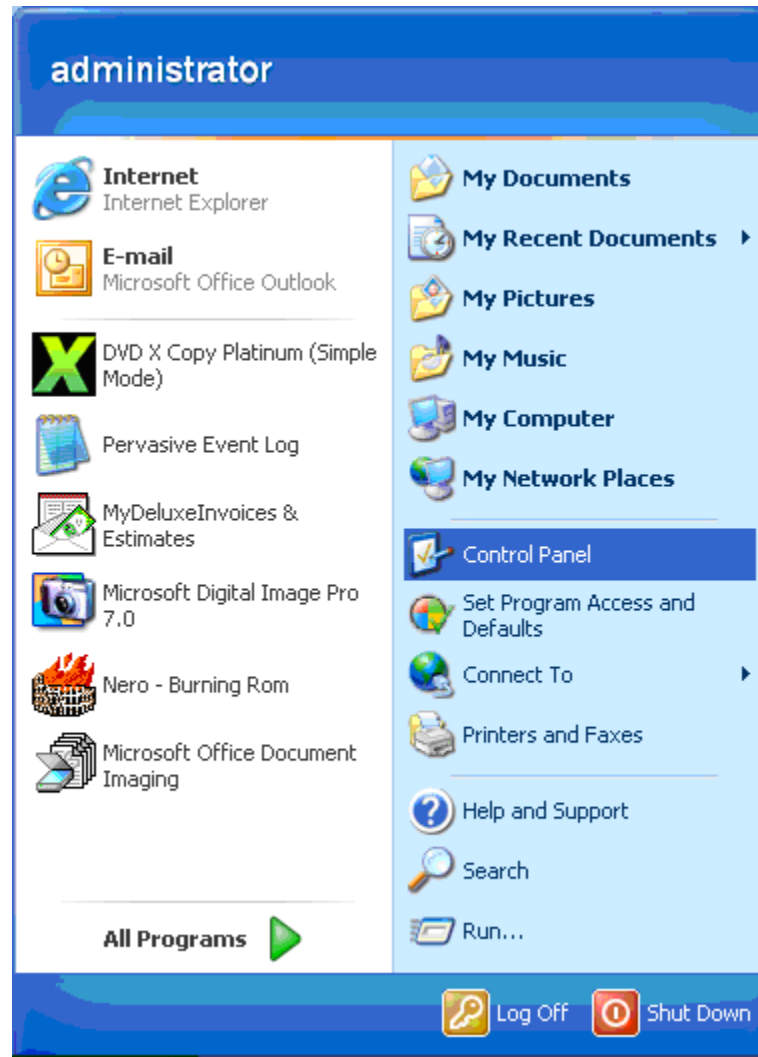

Figure 40
2. Click **Settings** and then click **Control Panel** (Figure 40).